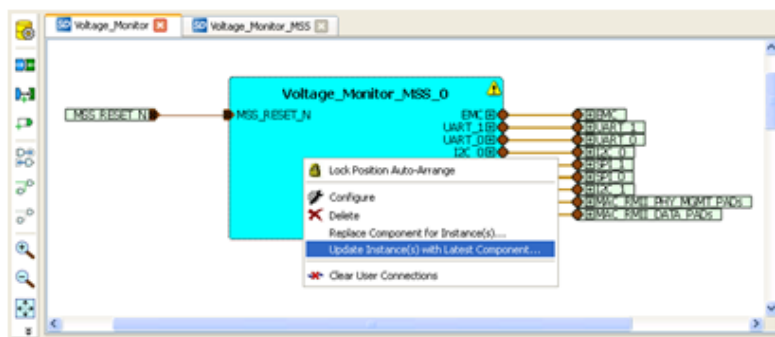

Figure 53 · Updating the MSS
1. Right-click on **Voltage_Monitor_MSS_0** component on the **Voltage_Monitor** tab and select **Update Instance(s) with Latest Component...** as shown in Figure 53 .